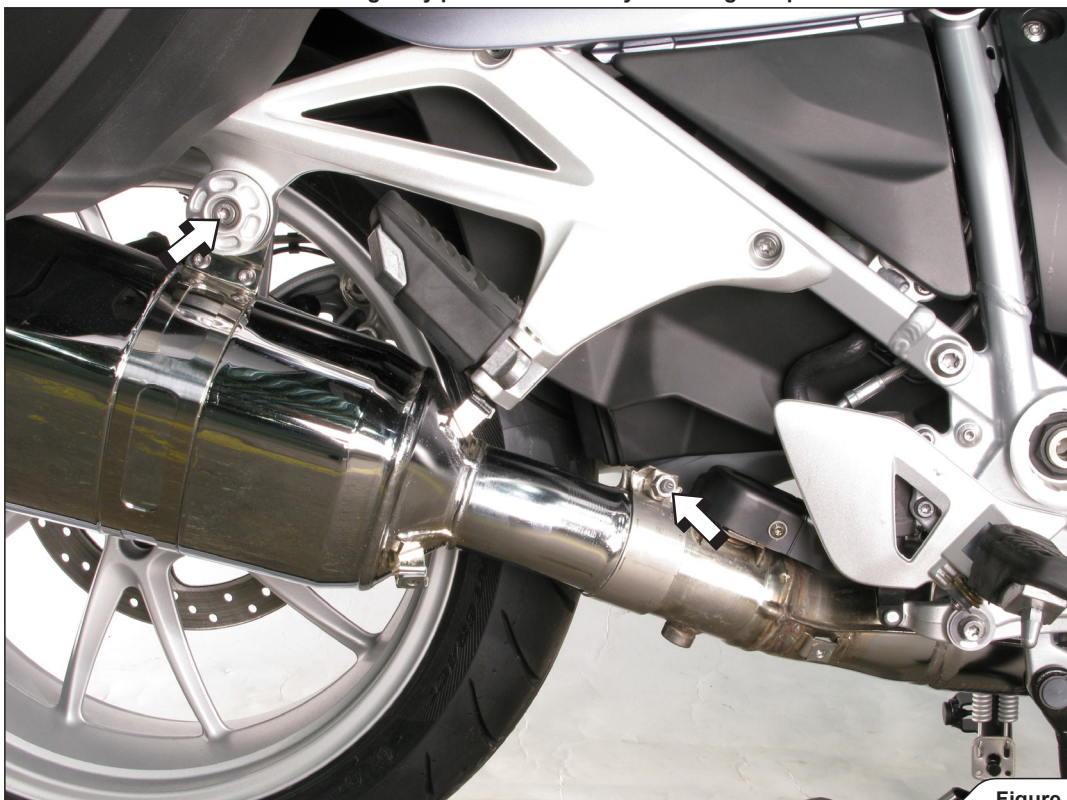

Figure 2
3. Unscrew the muffler's bracket bolt, loosen the marked clamp and carefully remove the stock muffler off the motorcycle (**Figure 2**).